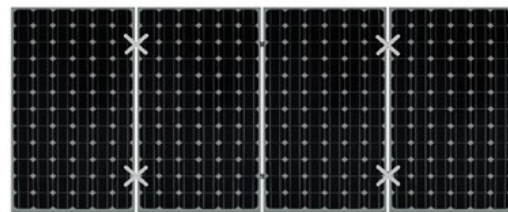

Fig. 30
- When there is an even number of PV Modules in each row, install the grounding clips at the positions marked X in Fig. 30, where the number of Grounding Clips = the number of PV Modules. Figure shows 4 x PV Modules requiring 4 x grounding clips.